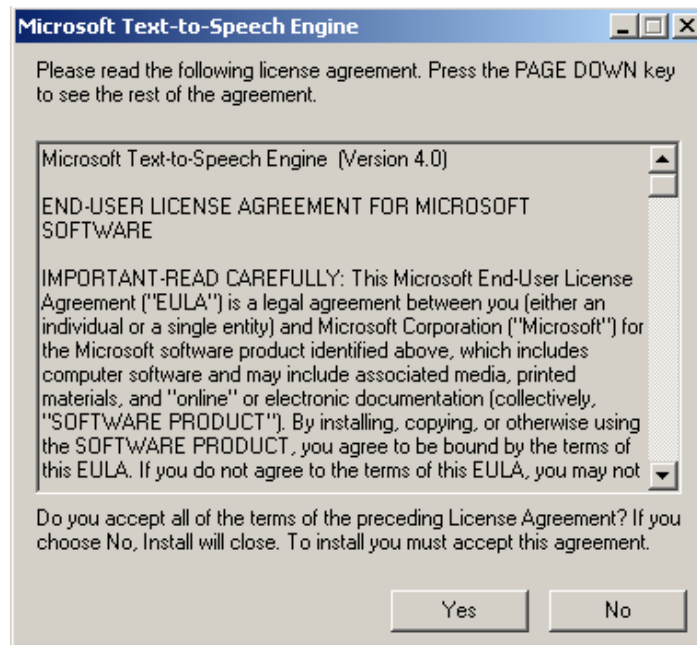

Figure 1.8. Microsoft Text-to-Speech Engine License Agreement
- The **Microsoft Text-to-Speech Engine License Agreement** appears (if you chose to install the Text-to-Speech agent), as shown in **Figure 1.8**. Read the agreement carefully. If you agree with the terms and conditions, click the **Yes** button to continue.